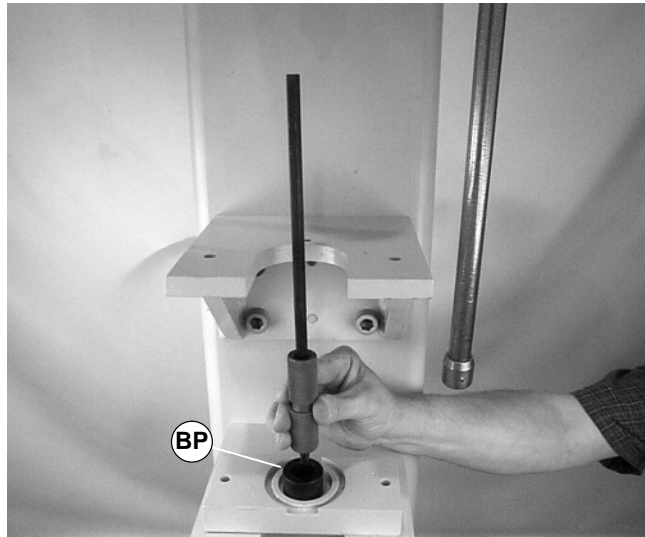

Figure 49
- Orient bearing anvil/sleeve removal tool (part # 25-09☆) (BP of Figure 49) with cavity facing up and place pulley onto tool.